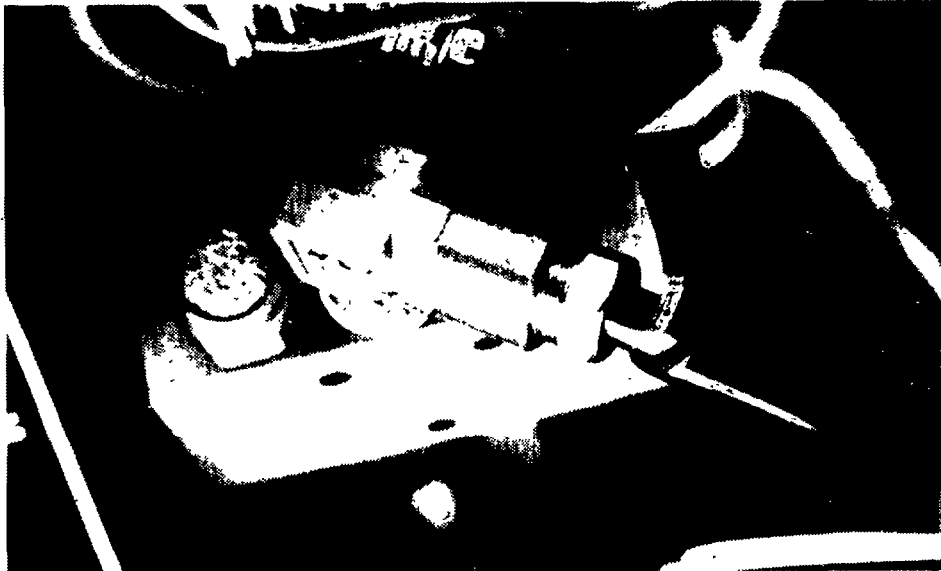

FIG 3 - FINAL POSITION OF ELBOW
- m. Unscrew the elbow fitting until the lower edge of the elbow just contacts the silencer as shown in Fig.3.